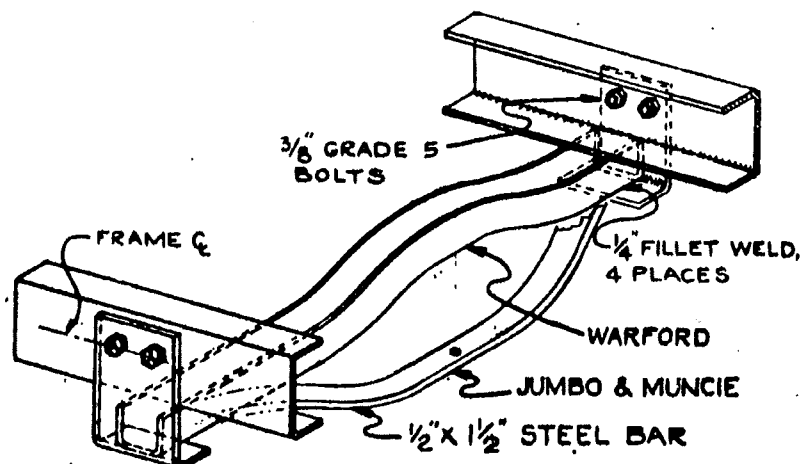

FIGURE 9
13. Weld a 3/8 or 7/16" grade 5 cap screw here; gusset head. Crossmember, similar to Fig. 9, Muncie will do fine.